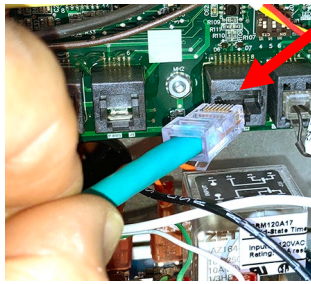

Figure 20
48. Disconnect the RJ45 cable from the SIB board **FIRST** (see Figure 20).